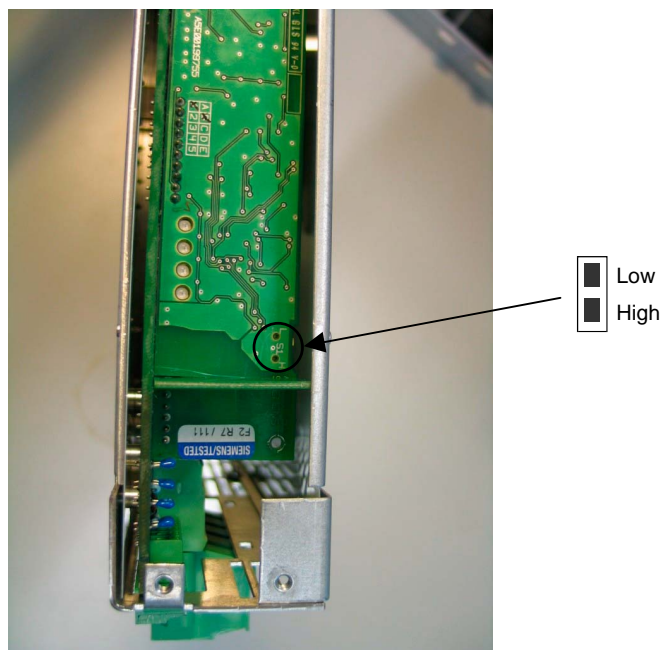

Fig. 6-2 Switch S1 for response threshold for 5 – 50 kW braking units
- ◆ Use a suitable tool, e.g. small screwdriver, to adjust the setting of switch S1 (Fig. 6-2).